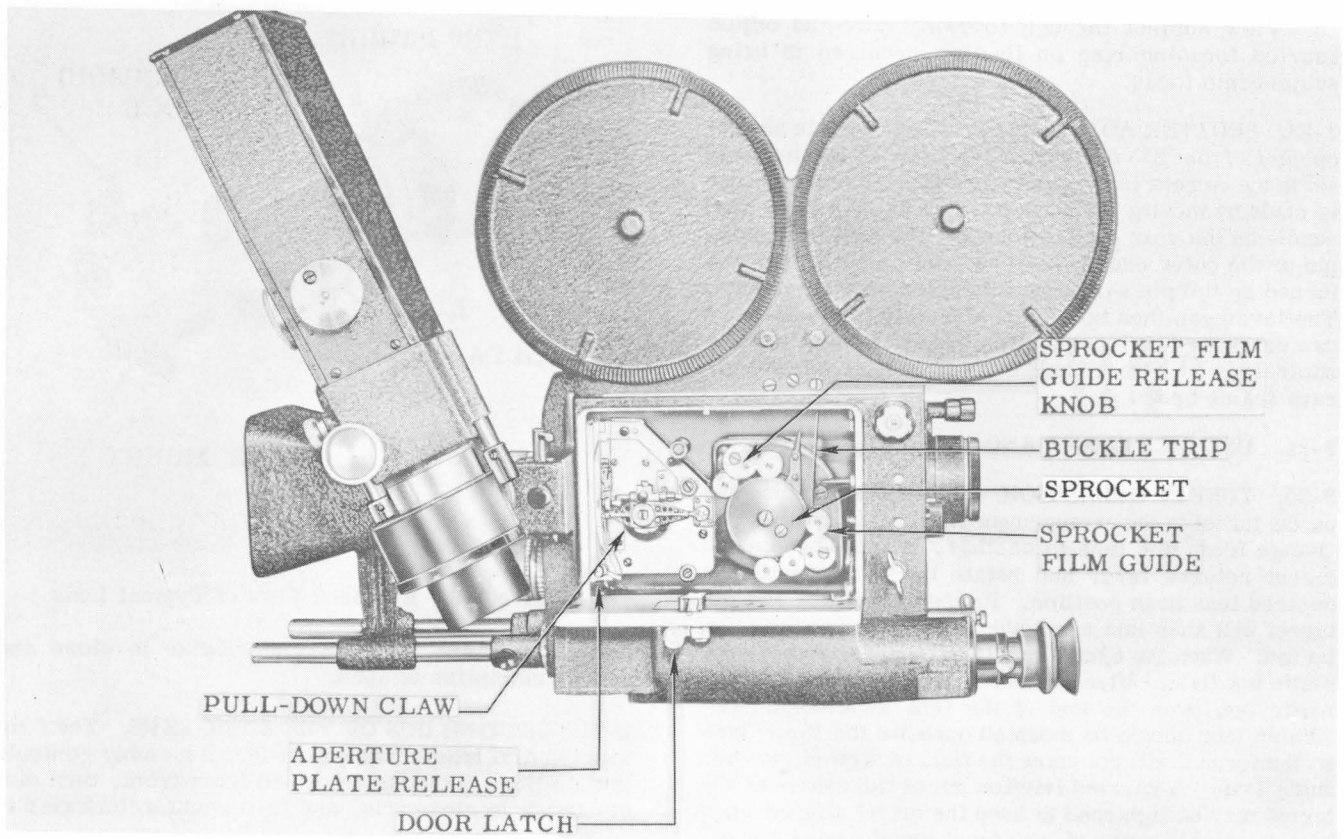

Figure 3-6. Viewfinder Raised for Access to Movement
- a. Raise or remove viewfinder to permit opening of camera door. (See figure 3-6.)